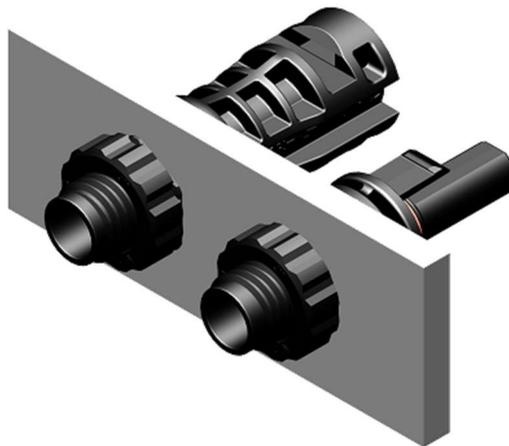

Figure 17
- ✧ 安装公/母面板连接器时，推荐用 2.0 N.m 的扭矩锁紧螺母。具体情况，需要由终端用户根据不同的面板验证合适的扭矩(如图 17)。
When installing the male or female panel connector, it is recommended to use 2.0 N.m torque lock nut. The appropriate torque has to be verified in the end use according to the respective housing (Fig.17).